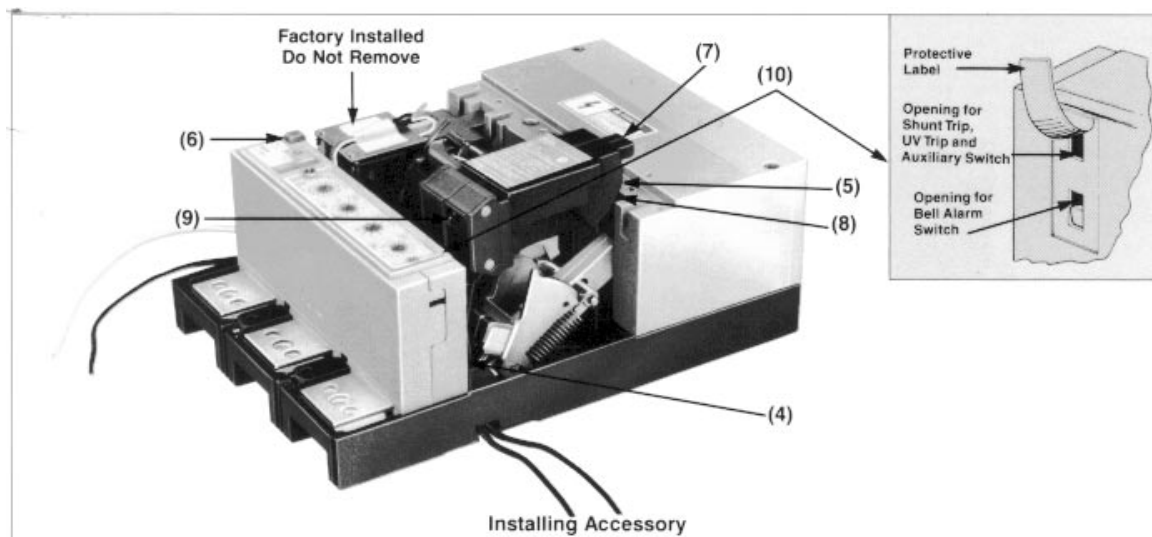

Figure 3
- Feed accessory leads down and through 5/16 X 1/2 in. elongated opening (4) to bring leads out of bottom of circuit breaker (Figure 3). NOTE: Leads must be brought out in the same order as they exit wire retainer of accessory case.
- Accessory is located in circuit breaker by groove (5), bottom side of accessory. Remove protective label from top of trip unit and guide actuator (9) into opening (10).